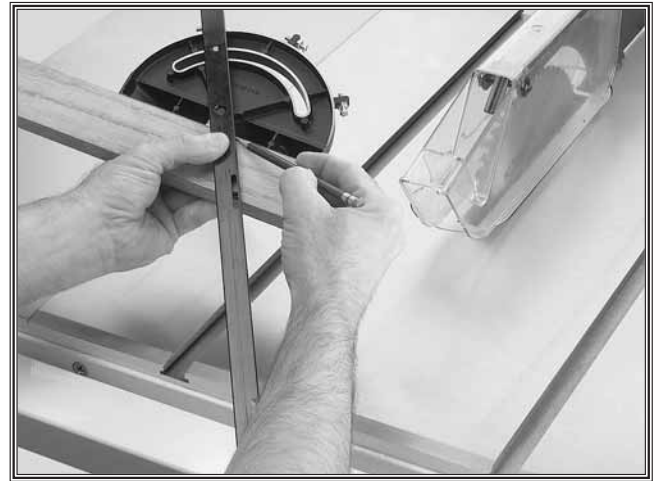

Figure 67. Marking miter line.
3. Now, pull the miter gauge out of the slot, place the face of the miter gauge against the edge of the workpiece. Position the miter gauge so the bar goes across the face of the workpiece. Use the bar as a guide to pencil in your cut as shown in **Figure 67**.